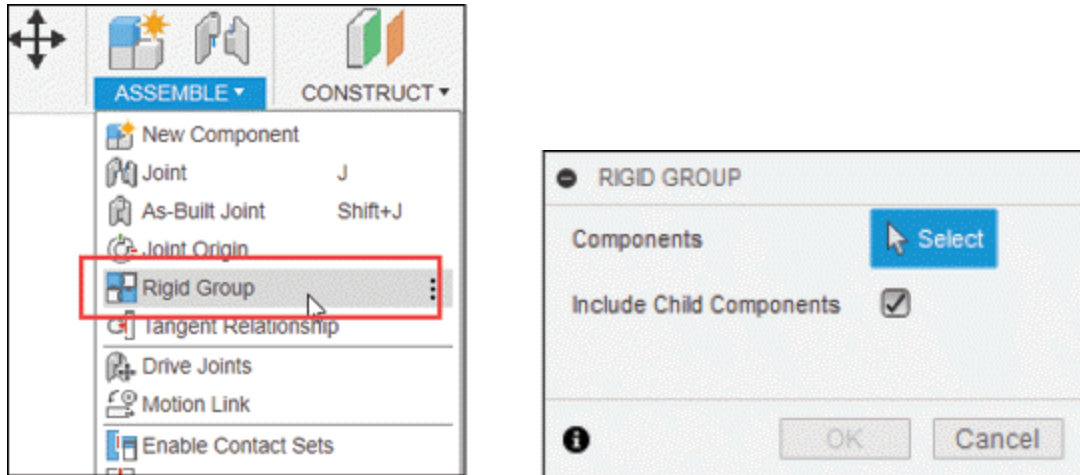

Figure-35. Rigid Group tool Figure-36. RIGID GROUP dialog box
- Click on the **Rigid Group** tool of **ASSEMBLE** drop-down from **Toolbar**; refer to Figure-35. The **RIGID GROUP** dialog box will be displayed; refer to Figure-36.